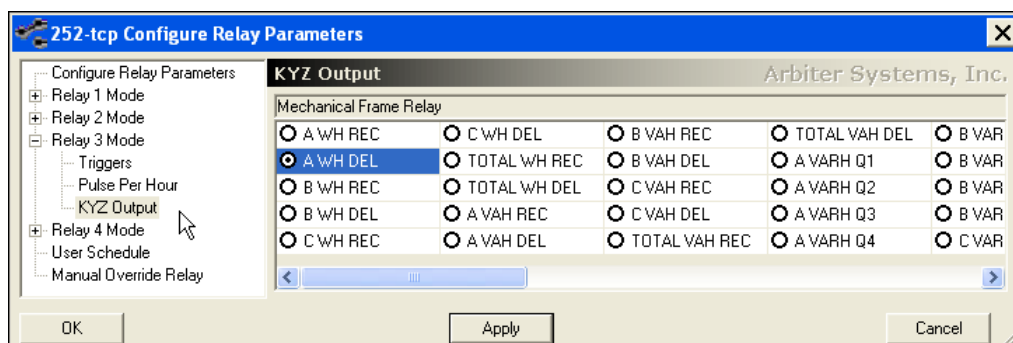

Figure 7.18: Configure KYZ Mode
1. Select KYZ mode by selecting the specific relay and choosing “KYZ Only.” See Figure 7.18. Click the + sign to expand the sub-tree to reveal the modes. Select “KYZ Output” under the relay and then select the energy value for recording.